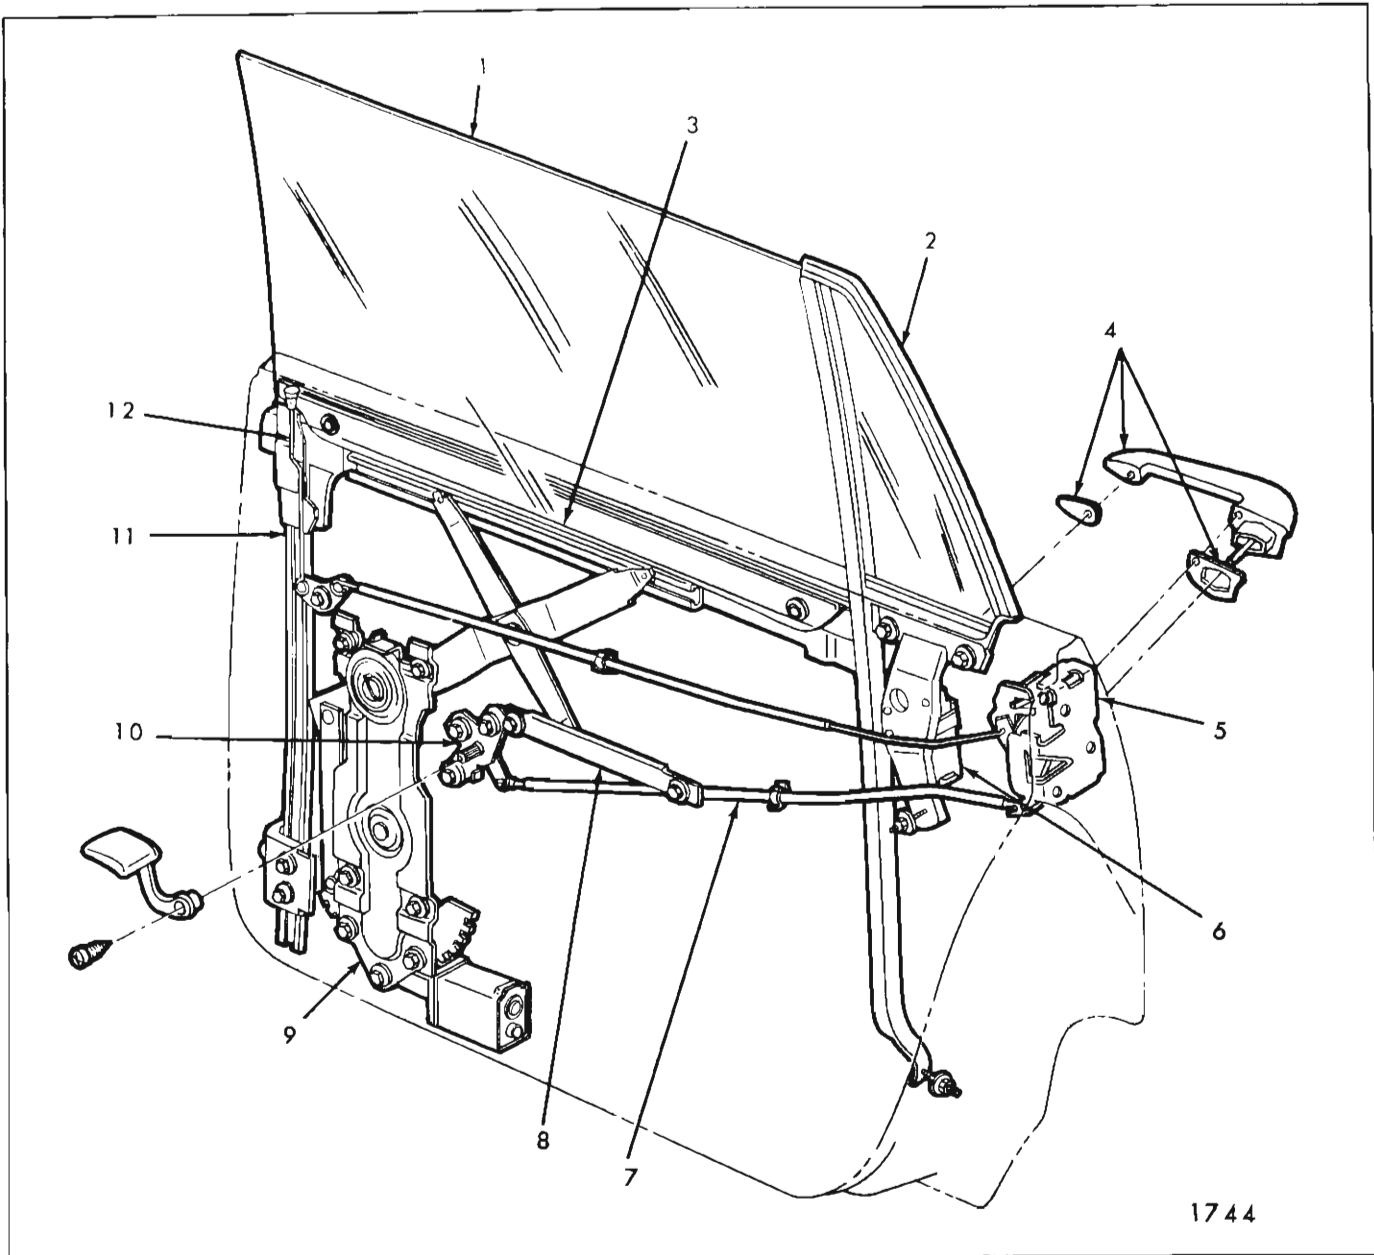

Fig. 1D56—Rear Door Hardware - 68069 Style
3. With door properly supported, remove upper and lower hinge attaching screws from door or center pillar (Fig. 1D57 or 1D58) depending on removal method being used. Then, remove door from body.